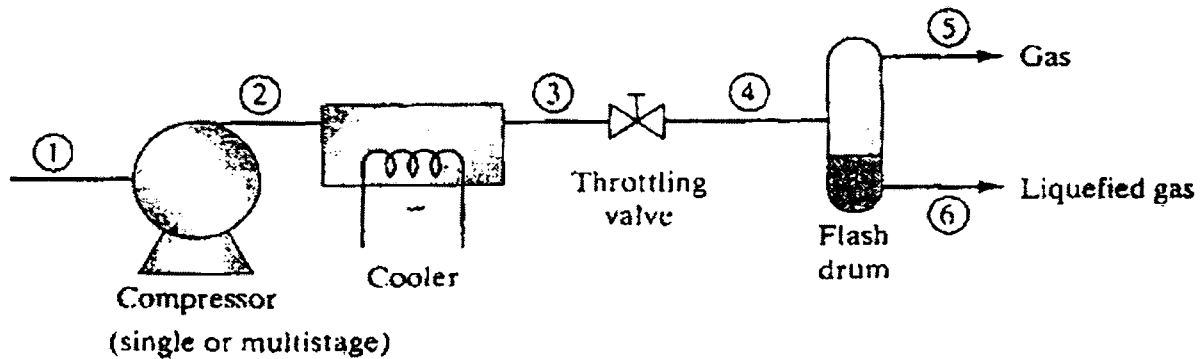

Figure Q.4.[c] : A simple liquefaction process without recycle.
- [c] Figure Q.4.[c] shows a simple liquefaction process without recycle. It is desired to produce liquefied natural gas (LNG), which is considered to be pure methane, from that gas at 1 bar and 280 K (condition at point 1). Leaving the cooler, methane is at 100 bar and 210 K (point 3). The flask drum is adiabatic and operates at 1 bar, and the compressor can be assumed to operate reversibly and adiabatically. However, because of the large pressure change, a three-stage compressor with intercooling is used. The first stage compresses the gas from 1 bar to 5 bar, the second stage from 5 bar to 25 bar, and the third stage from 25 bar to 100 bar. Between stages the gas is isobarically cooled to 280K.